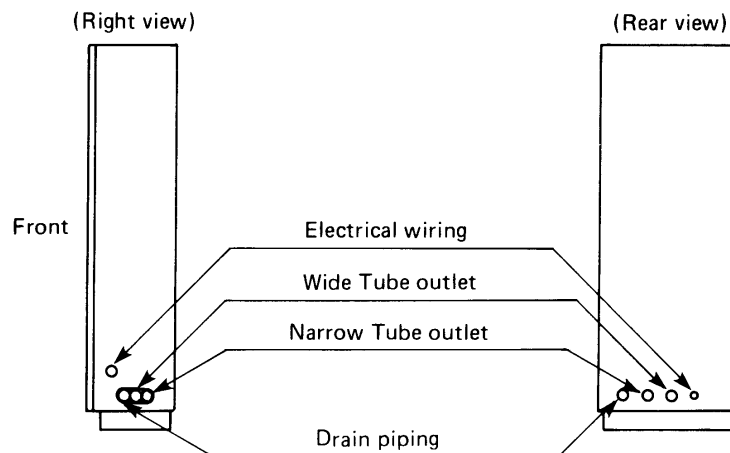

Fig. 10
- e) The refrigerant tubing, drain piping and electrical wiring can be connected up in one of two directions (Right and Rear), depending upon the installation location. Fig. 10